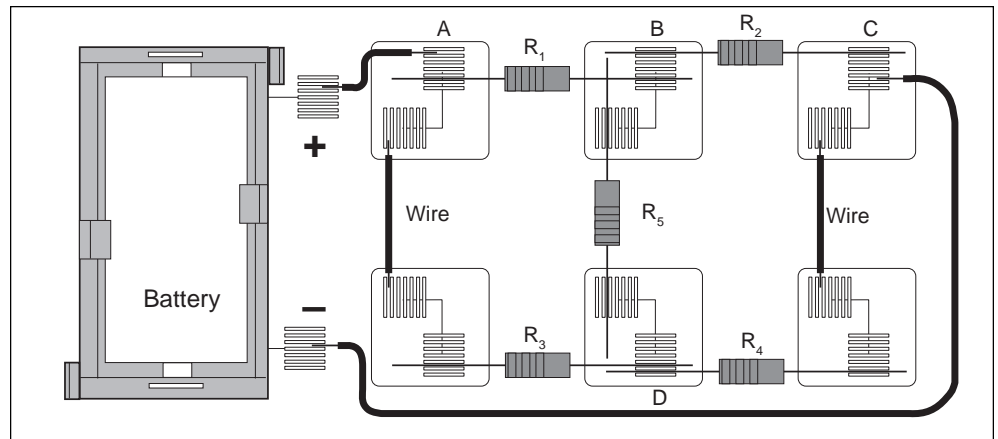
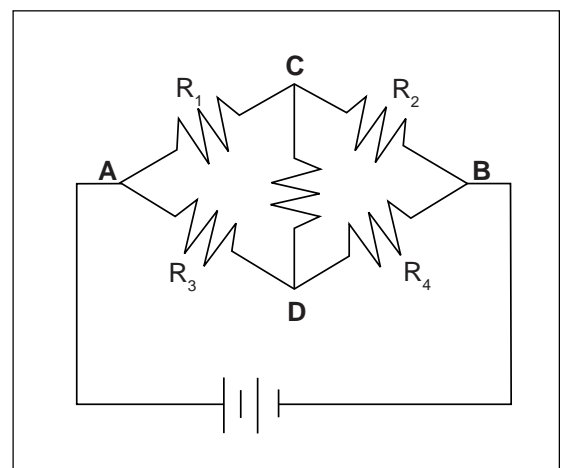

Figure 7.1a
Figure 7.1b
- ① Connect the circuit shown in Figure 7.1a using any of the resistors you have **except the 10  $\Omega$  one**. Use Figure 7.1b as a reference along with 7.1a as you record your data. Record the resistance values in the table below. With no current flowing (the battery disconnected), measure the total resistance of the circuit between points **A** and **B**.
- ② With the circuit connected to the battery and the current flowing, measure the voltage across each of the resistors and record the values in the table below. On the circuit diagram in Figure 7.1b, indicate which side of each of the resistors is positive relative to the other end by placing a "+" at that end.
- ③ Now measure the current through each of the resistors. Interrupt the circuit and place the DMM in series to obtain your reading. Make sure you record each of the individual currents, as well as the current flow into or out of the main part of the circuit,  $I_T$ .